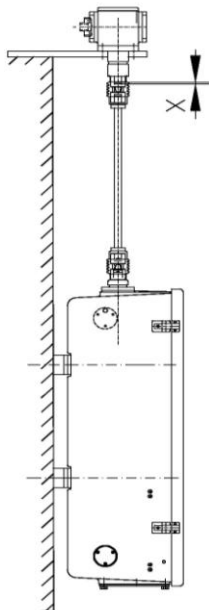

Fig.35 – Vertical shaft without protective pipes
11.2. Installation of a vertical shaft without protective pipes (Fig. 35).